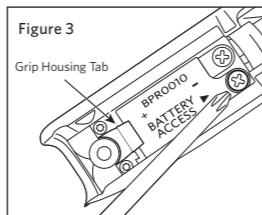

Figure 3
1. Remove battery cover with Phillips head screwdriver\* (Figure 3).